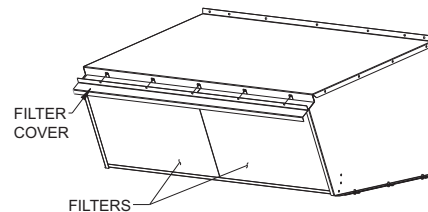

Fig. 38 — Filters and Filter Cover
14. Slide two 20 x 25-in. filters into cross members of hood assembly. Attach filter cover over filters with screws and speed clips provided. See Fig. 38.